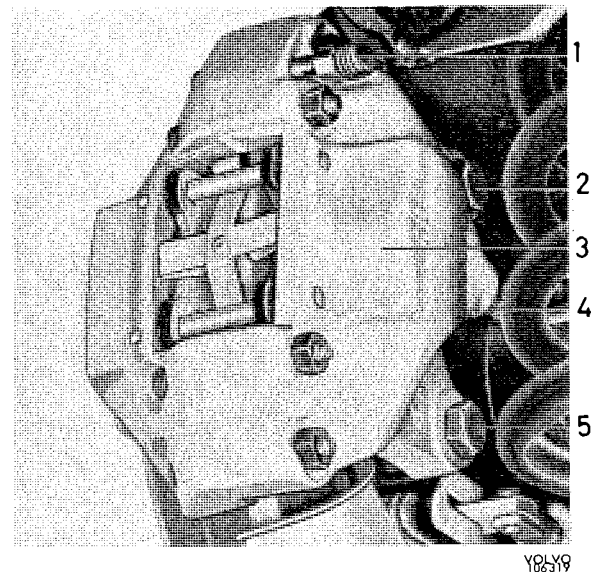
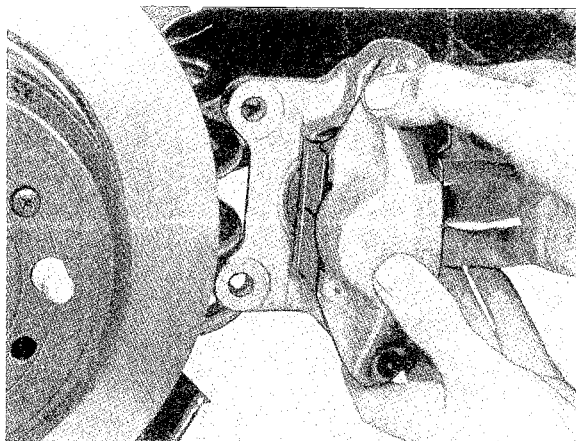

Fig. 5-25. Rear wheel brake unit installed
Fig. 5-26. Removing rear wheel brake caliper
3. Disconnect the brake line (4, Fig. 5-25) at the connection to the caliper and fit a protective cover on the brake line. Remove attaching bolts (2 and 5, Fig. 5-25). Remove brake caliper, see Fig. 5-26.
2. Connect the brake line, see Fig. 5-25. Remove the plug for the bleeder hole in the brake fluid container cover.